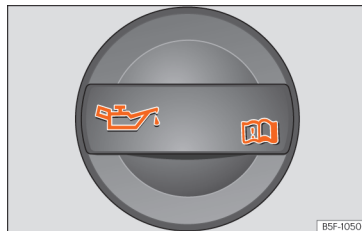

Fig. 187 In the engine compartment: Engine oil filler cap.
- Unscrew cap from engine oil filler opening »» **Fig. 187**.